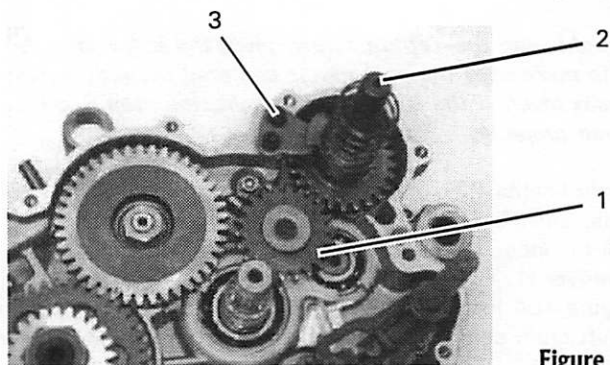

Figure 107
2. Install the idler gear (1, Figure 107) with its shoulder side facing out. Then install the thrust washer and countersunk screw. Apply Loctite 221 onto the screw threads. Tighten the countersunk screw to 8 N.m (65 in.-lb.).
1. Assemble the kickstarter assembly and install into the crankcase (2, Figure 107). Hook the return spring into the U-shaped boss cast into the top of the crankcase.
2. Pivot the kickstarter clockwise, then install the ratchet gear stop (3, Figure 107) and secure it with its 2 Allen screws. Apply Loctite 221 onto the screw threads. Tighten the screws to 10 N.m (88 in.-lb.).